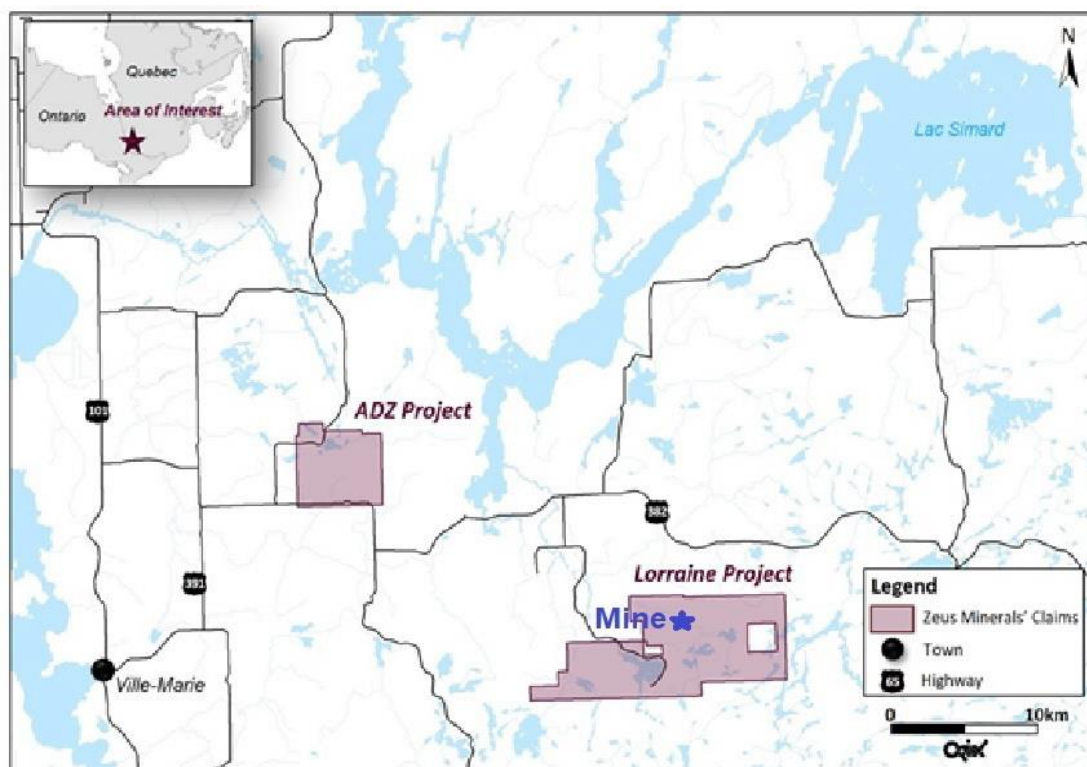

Figure 1: Lorraine Project and Mine Site Locality Map
**Advanced Nickel-Copper-PGE focused explorer Chase Mining Corporation Limited** ("CML" or "The Company") is pleased to provide the following update on its planned gold exploration programme over the Lorraine Project area (Figure 1).